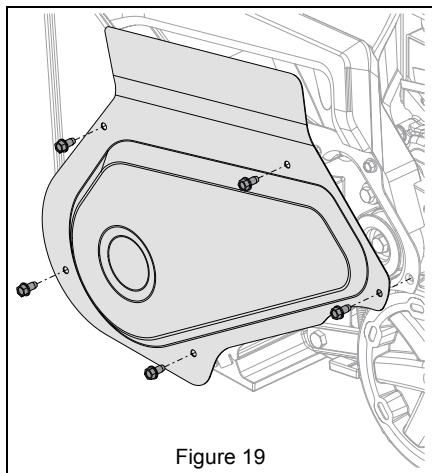

Figure 19
3. Remove belt cover hardware and remove cover. Retain all parts. See Figure 19.